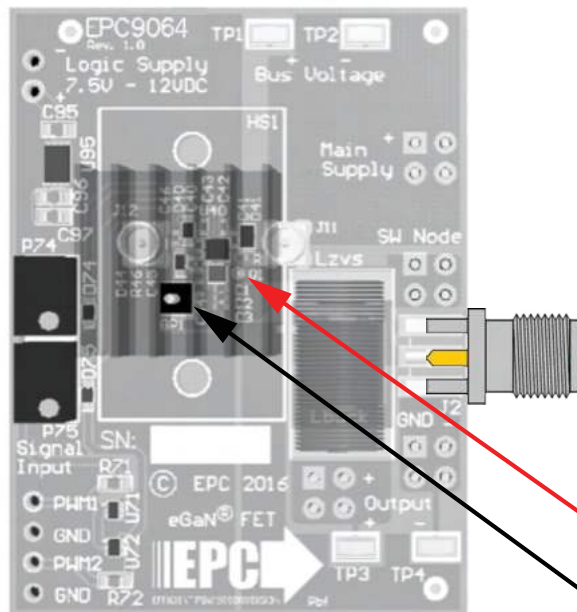

Figure 3: Proper measurement of the switch nodes.
**NOTE.** When measuring the high frequency content switch node, care must be taken to avoid long ground leads. Measure the switch node by placing the oscilloscope probe tip through the large via on the switch node (designed for this purpose) and grounding the probe directly across the GND terminal provided. See figure 3 for proper scope probe technique.